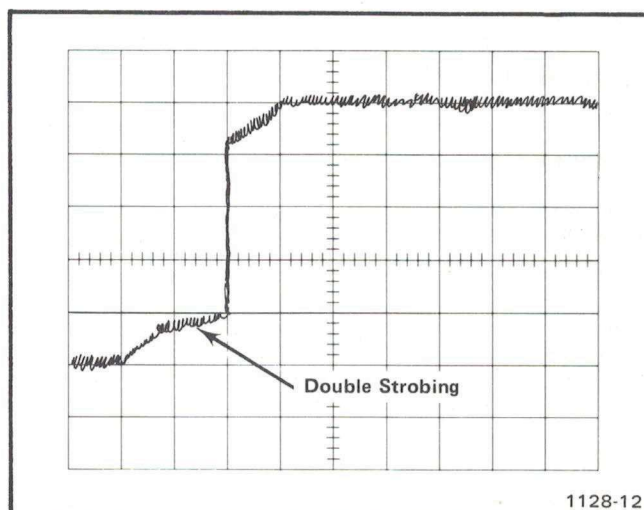

Fig. 4-5. Double Strobing example.
e. Adjust R50 (Snap-off Current) for no double strobing, lowest noise, and minimum aberrations. There will be some interaction with the adjustment of R50. See Fig. 4-5.